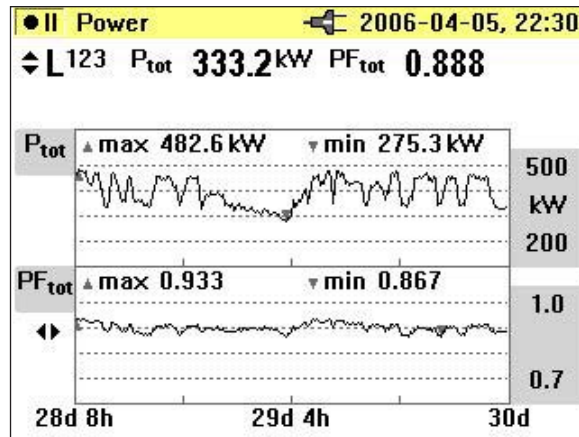

Figure 3. An example of the recorder screen at the end of the duration, verifying all data is being stored.
The trend screen will appear and plot a new minimum, maximum and average on the display every fifteen minutes, moving from left to right as shown in Figure 3.
5. **Download and review the measurements.** For 30 days of recording, with a measurement every 15 minutes, you will have 2880 sets of measurements. Use Power Log to graph this data, find the maximum current or power on each phase, compare the three phases and report the largest number. Figure 3 shows three phase-current recordings, zoomed in to show detail.